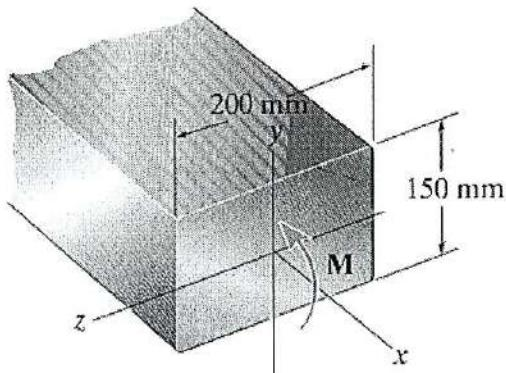

Figure Q4(b) / Rajah S4(b)
- b) A structural member having the dimensions as shown in **Figure Q4(b)** is used to resist an internal bending moment of $M = 90 \text{ kN.m}$. Determine the maximum stress in the structural member if the moment is applied about the z axis.